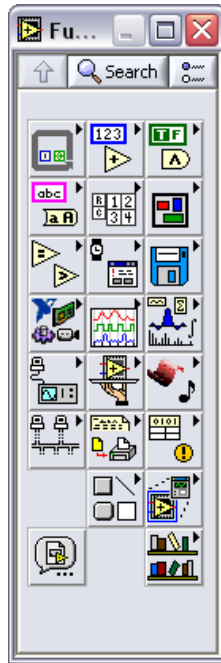

Figure 2. Functions Palette–Default Advanced View
1. If the **Functions** palette, shown in Figure 2, is not visible on the block diagram, right-click any blank space on the block diagram to display a temporary version of the **Functions** palette. Click the thumbtack in the upper left corner of the **Functions** palette to pin the palette so it is no longer temporary. You can place the **Functions** palette anywhere on the screen.